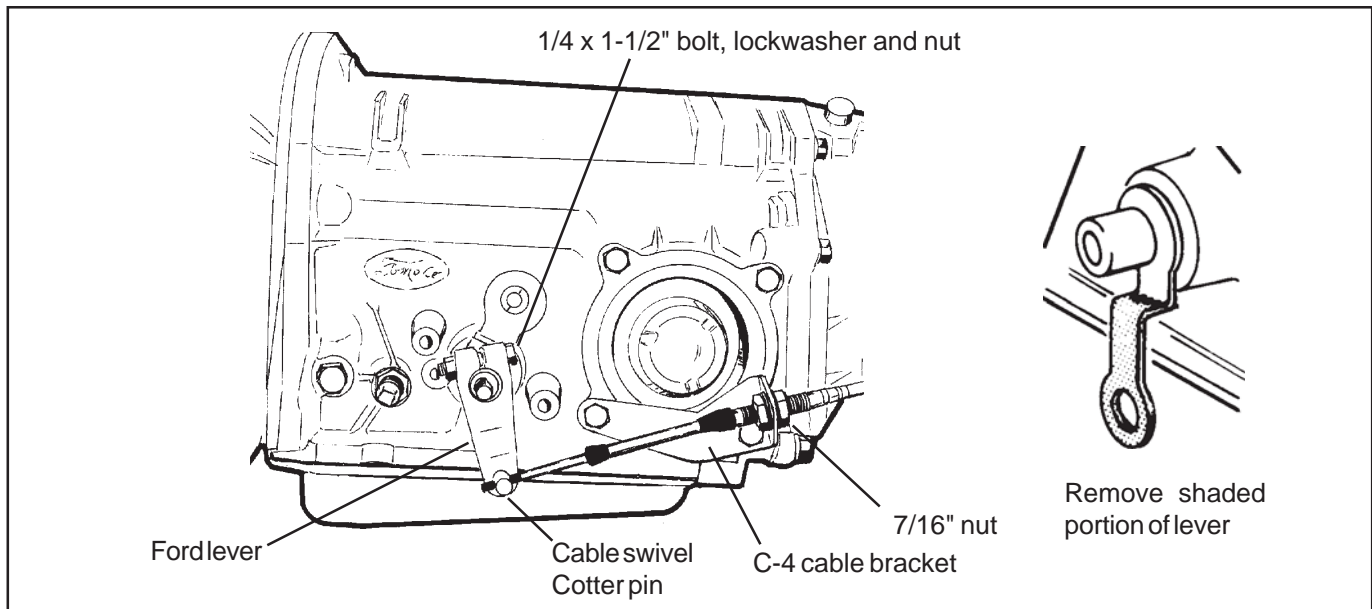

Figure 4
**STEP 14.** Install the **B&M** selector lever (See Figure 4 or 5). Note: The **B&M** lever must point downward for proper operation. If the stock shift lever on your transmission points down, you will have to remove the lower part
of the stock arm by cutting it off to clear the **B&M** lever (See Figure 4). Install the **B&M** selector lever onto the shift shaft of the transmission. Align the selector lever so when it points straight down it travels equal arcs in both directions from the center, then tighten the 1/4"-20 x 1 1/2" bolt and nut. The lever should travel smoothly from front to back with a positive click in each gear position. Make sure the o-ring is in position on the downshift shaft and install the downshift lever in position on the shaft. Install the lockwasher and nut and tighten securely. The downshift lever must operate smoothly. Reconnect the downshift linkage.
**STEP 15.** Cable bracket installation: **C-4, C-5:** Remove the two lower bolts from the rear servo cover. Install the cable bracket in position (See Figure 4). Install the two servo cover bolts as removed and tighten to 12-13 lb-ft. Do not overtighten as this can distort the servo cover.